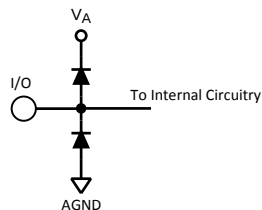

Figure 2.
- (1) The inputs are protected as shown below. Input voltage magnitudes above V_A or below GND will not damage this device, provided current is limited per Note 4 of the Absolute Maximum Ratings Table. However, errors in the A/D conversion can occur if the input goes above V_A or below GND by more than 100 mV. As an example, if V_A is +3.3V, the full-scale input voltage must be $\leq +3.4V$ to ensure accurate conversions. See Figure 2.
- (2) To ensure accuracy, it is required that $|V_A - V_D| \leq 100\text{ mV}$ and separate bypass capacitors are used at each power supply pin.
- (3) With the test condition for $V_{REF} = +1.0V$ (2V_{P-P} differential input), the 12-bit LSB is 488 μV .
- (4) Typical figures are at $T_J = 25^\circ\text{C}$, and represent most likely parametric norms. Test limits are ensured to TI's AOQL (Average Outgoing Quality Level).
- (5) I_{DR} is the current consumed by the switching of the output drivers and is primarily determined by load capacitance on the output pins, the supply voltage, V_{DR} , and the rate at which the outputs are switching (which is signal dependent). $I_{DR} = V_{DR}(C_0 \times f_0 + C_1 \times f_1 + \dots + C_{11} \times f_{11})$ where V_{DR} is the output driver power supply voltage, C_n is total capacitance on the output pin, and f_n is the average frequency at which that pin is toggling.
- (6) Excludes I_{DR} . See DC and Logic Electrical Characteristics, Note 5.
- (4) Timing specifications are tested at TTL logic levels, $V_{IL} = 0.4V$ for a falling edge and $V_{IH} = 2.4V$ for a rising edge.
- (5) Typical figures are at $T_J = 25^\circ\text{C}$, and represent most likely parametric norms. Test limits are ensured to TI's AOQL (Average Outgoing Quality Level).